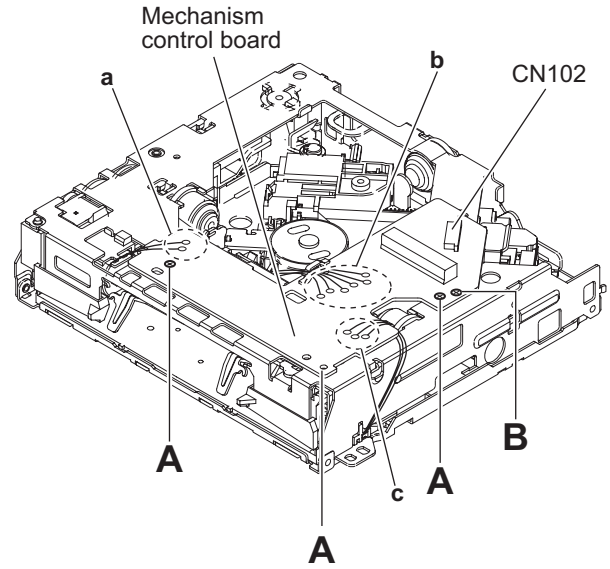

Fig.1
3.2.1 Removing the MECHANISM CONTROL BOARD assembly (See Fig.1 and 2)
- From the bottom side of CD MECHANISM assembly, remove the solders from the soldered sections (a, b and c) on the MECHANISM CONTROL BOARD assembly. (See Fig.1.)
- Remove the three screws **A** and one screw **B** attaching the MECHANISM CONTROL BOARD assembly. (See Fig.1.)